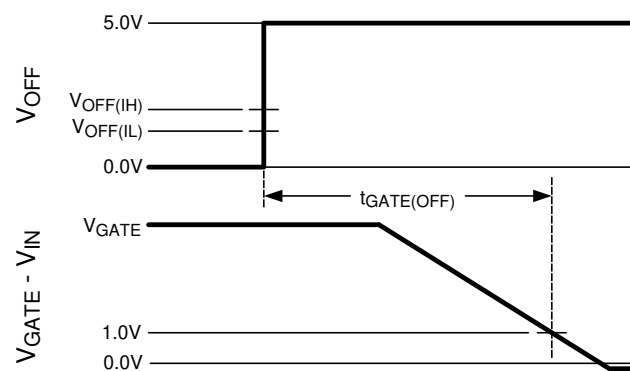
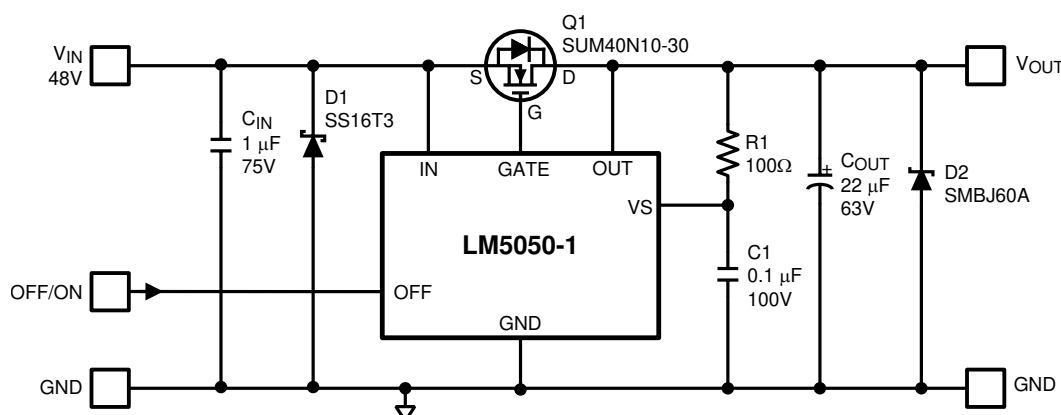

Figure 2. Gate OFF Timing for OFF Pin Low to High Transition
Figure 24. Typical Application With Input and Output Transient Protection Schematic
(3) Time from V_{OFF} voltage transition from 0 V to 5 V until GATE pin voltage falls to $V_{IN} + 1\text{ V}$. See Figure 2
Blocking diodes are commonly placed in series with supply inputs for the purpose of ORing redundant power sources and protecting against supply reversal. The LM5050 replaces diodes in these applications with an N-MOSFET to reduce both the voltage drop and power loss associated with a passive solution. At low input voltages, the improvement in forward voltage loss is readily appreciated where headroom is tight, as shown in Figure 2. The LM5050 operates from 5 V to 75 V and it can withstand an absolute maximum of 100 V without damage. A 12-V or 15-A ideal diode application is shown in Figure 24. Several external components are included in addition to the MOSFET, Q1. Ideal diodes, like their non-ideal counterparts, exhibit a behavior known as reverse recovery. In combination with parasitic or intentionally introduced inductances, reverse recovery spikes may be generated by an ideal diode during an reverse current shutdown. D1, D2 and R1 protect against these spikes which might otherwise exceed the LM5050 100-V survival rating. COUT also plays a role in absorbing reverse recovery energy. Spikes and protection schemes are discussed in detail in the Short Circuit Failure of an Input Supply section.
Table 1 shows the parameters for Figure 24